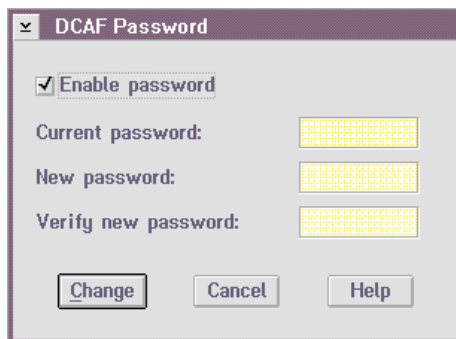

Figure 166. DCAF Password
3. Click on the **Enable password** check box ( Figure 166).